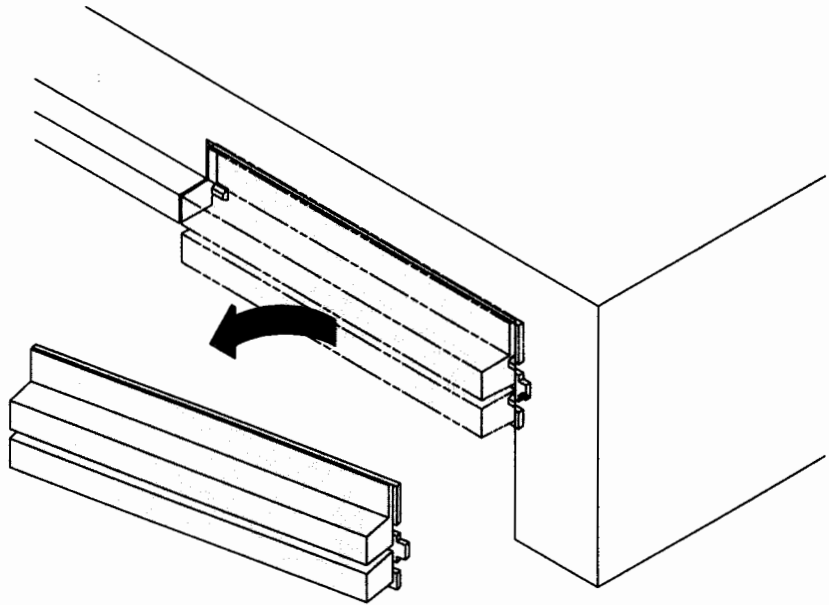

Figure B-5. Removing the Blank Bezel
3. Remove the blank filler bezel by flexing the front of the system cover as you pull out the bezel as shown in Figure B-5.